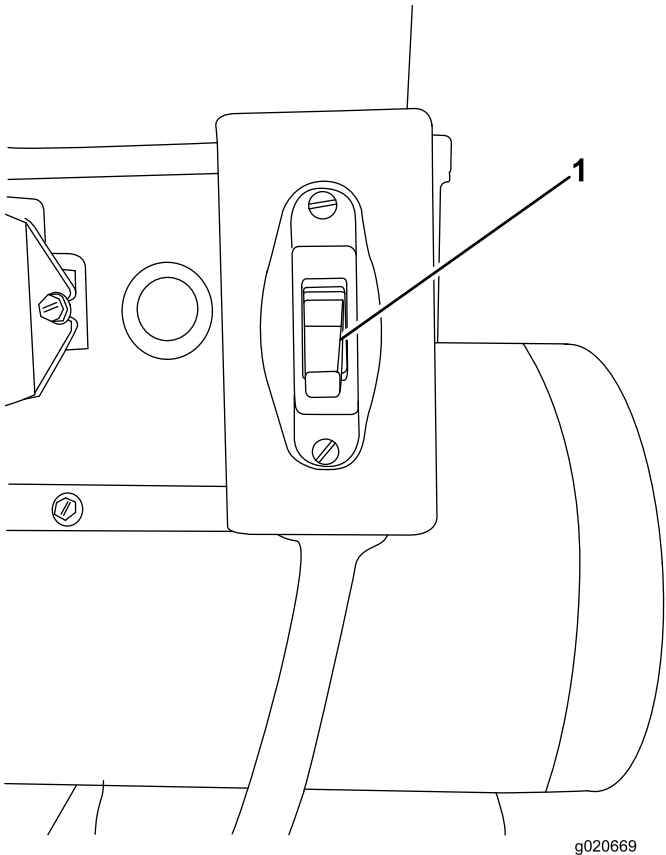

Figure 11
The On/Off switch (Figure 11) allows the operator of the machine to start and stop the motor. This switch is located on the front of the motor. It is marked (ON) and (OFF). Rotate the On/Off switch to the On position to start and run the motor. Rotate the On/Off switch to the Off position to stop the motor.